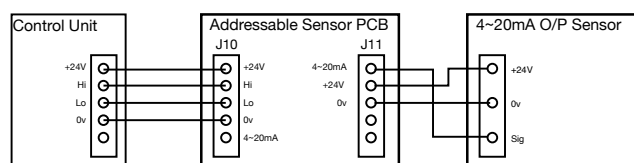

Fig.2
3. Connect terminal J10 as shown in Fig.2